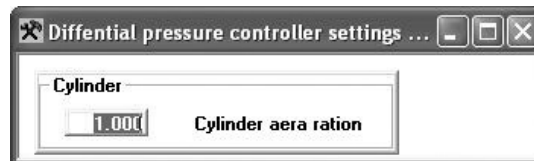

Fig. 56: Setting of the area ratio
- Delta pA-pB (pressure differential): The difference of the pressure in A and B is calculated in an area ratio-evaluated form. The area ratio can be set in the range from 0...15.99 (fig. 56 "Setting the area ratio" on page 64; M481).